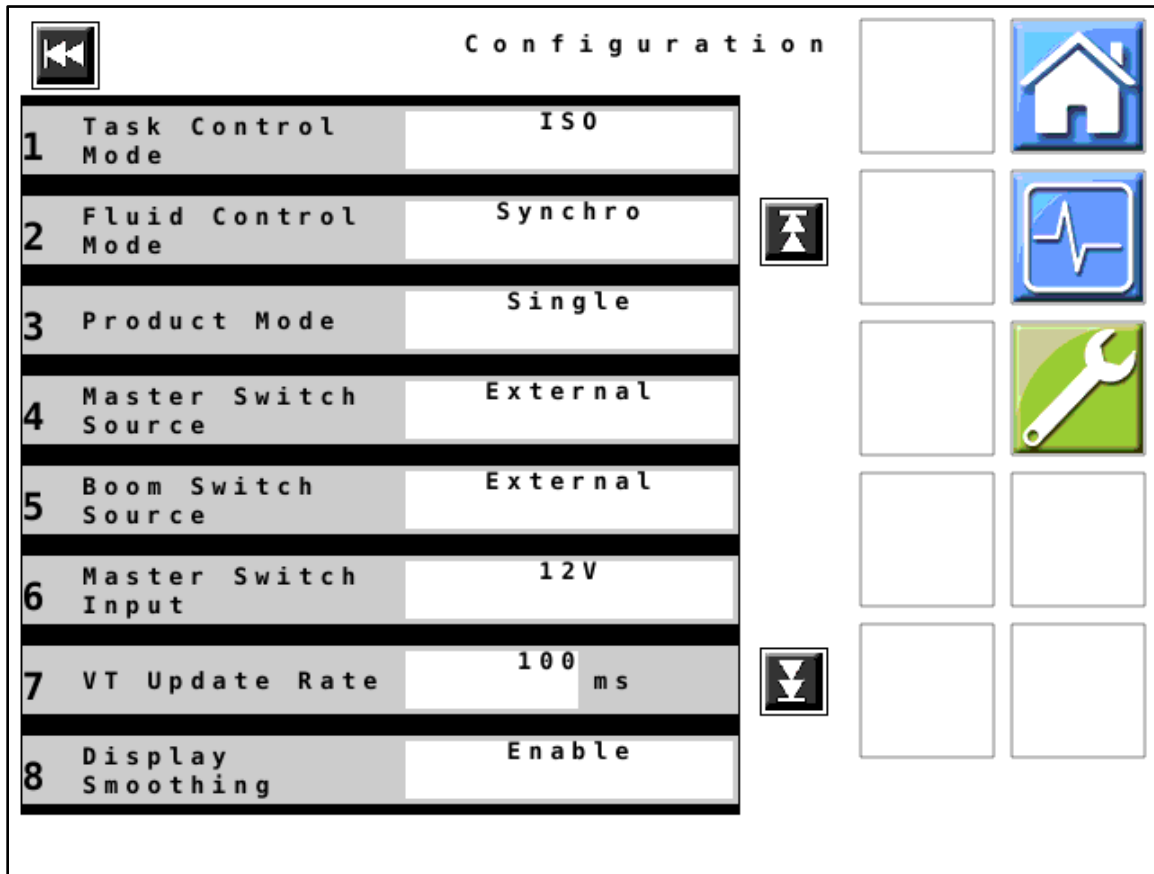

Figure 6 — Configurations Page 1
Note: ANYTIME you change settings, you MUST tap the **Settings** icon  to go into the **Settings** menu and select **Initial Setup > Configurations > Software Restart** to save settings. If the unit is turned off or loses battery power before this is done, the new settings will not be saved. Refer to *Figure 6* for the location of this function.
13. *Figure 6:* Verify that all values displayed on your unit match those shown here. Change values if necessary.